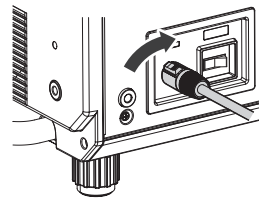

Fig. 2
- 2) While inserting the power cord connector into the projector, turn clockwise until it clicks. (Fig. 2)